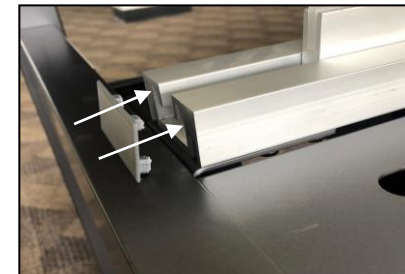

Figure 5
4. Insert main extrusion cap on each end of the aluminum rail (Figure 5)